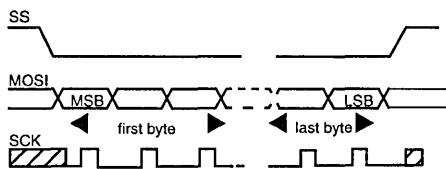

Figure 3. SPI Protocol
Basically, the transmission format is very similar with that for display RAM or control registers. The major difference is to replace the row and column address with segment address and line address respectively. There are also three transmission formats, from (a) to (c) as stated below. The data train in each sequence consists of segment address (S), line address (L), and font informations (I), as shown in Figure 3. In format (a), each font information data have to be preceded with the corresponding segment address and line address. This format is particular suitable for updating small portion of font pattern. However, if the current information byte has the same segment address as the one before, format (b) is recommended. For a new font pattern change